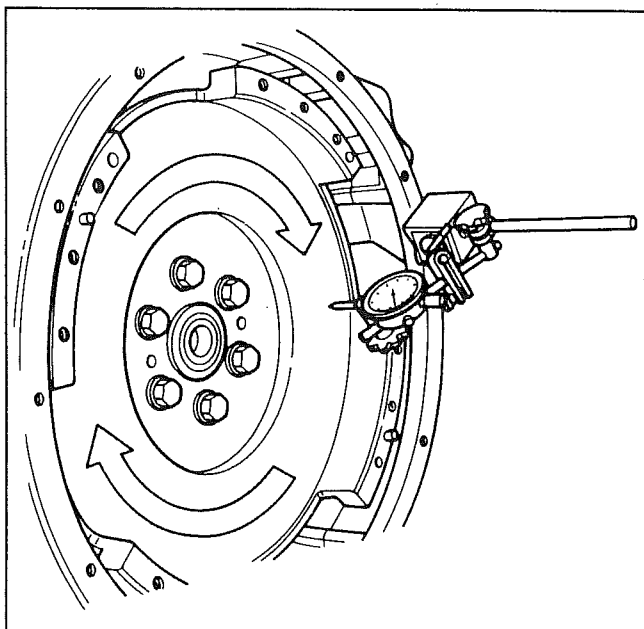

Figure 9-8. Checking Flywheel Axial Runout
2. Measure the **axial runout** at the outer diameter of the flywheel. Secure the dial indicator base to the engine flywheel housing near the outer edge and place the dial indicator tip on the flywheel (Fig. 9-8). Turn the engine over by hand and observe the reading on the dial indicator. Measure at four places, 90 degrees apart. Force flywheel rearward when taking each measurement to take up crankshaft endplay. Typical runout limits are: